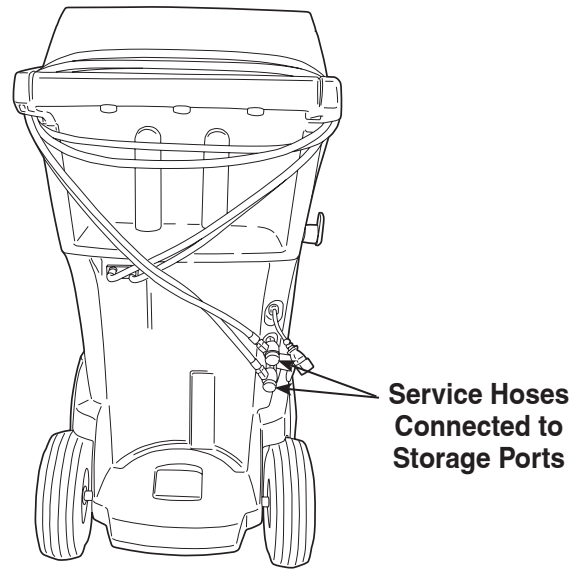

Figure 3
1. When prompted, connect the service hoses from the machine to their storage ports as shown in Figure 3.